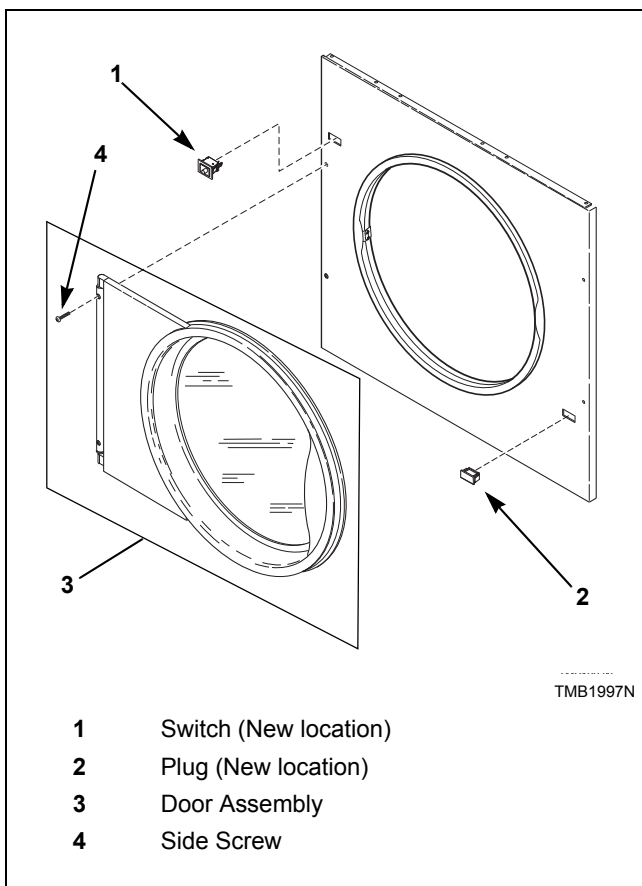

Figure 13
8. Place front panel on machine, loosely attach four bottom screws. Connect door switch harness to switch in new location. Install door assembly and four front panel side screws loosely. Refer to *Figure 13*.